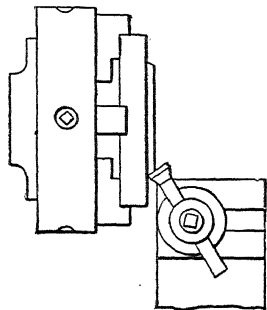

FIG. 120.—Radial facing.
Fairly large pieces are easily held in a chuck and faced (see Fig. 120). For ordinary facing of jobs in a chuck, see page 125.
**132. Radial Facing.**—The term "radial facing" may be applied to the truing of the faces of work of a comparatively large diameter when held in a chuck or on a faceplate (see Fig. 120). The shovel-nose tool (see page 77) may be used for the roughing cut. When using this sort of tool or a similar tool, face from the circumference of the work toward the center. When finishing, an ordinary turning tool, or side tool, whichever is preferred, may be used. In radial facing care must be